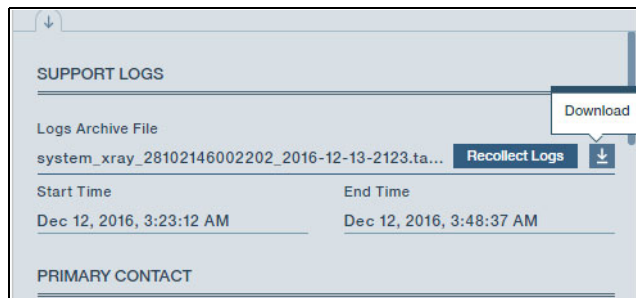

Figure 7-4 Log Download icon
7. When the download of the log is complete, click the log archive file **Download** icon to transfer the log file to your computer. See Figure 7-4.